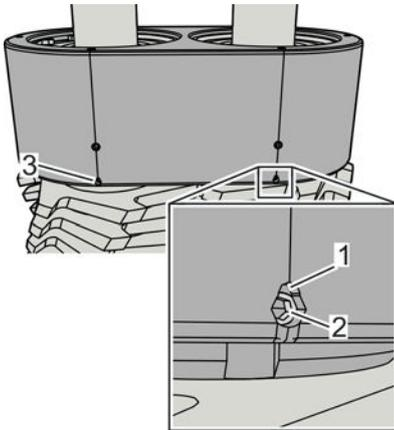

Fig. 134: Screwing in the locking screws
7. ➔ Unscrew all locking screws (Fig. 134/2, 3) of the upper and lower bearing housing until they are flush on the outside with the reference surface of the adjacent recess (Fig. 134/1).